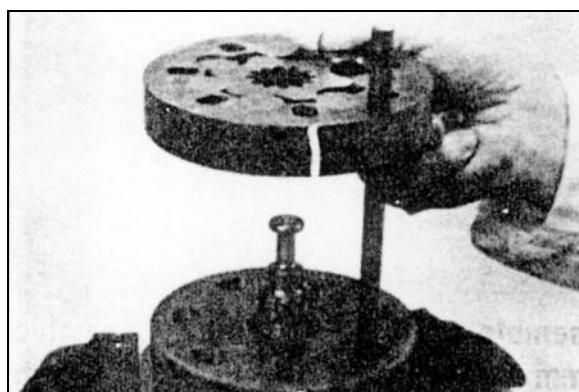

Figure 56
14. Install the assembled rotor set (8) onto wear plate (9) with rotor (8A) counterbore and seal ring side down and the splines into mesh with the drive link splines. See Figure 56.